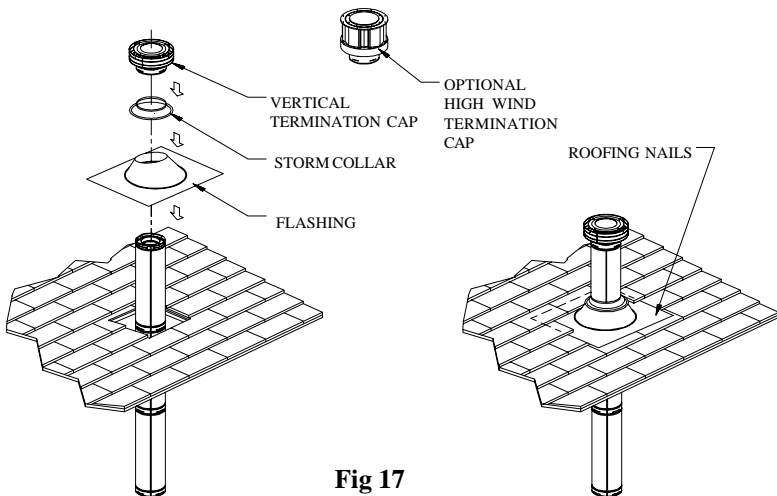

Fig 17
Step 9. Slip the Storm Collar over the Pipe, and push it down to the top of the Flashing, as shown in Fig 17. Use non-hardening sealant around the joint between the Storm Collar and the Pipe.
Secure the base of the Flashing to the roof with roofing nails. Use a non-hardening sealant between the uphill edge of the flashing and the roof. Insure the roofing material overlaps the top edge of the Flashing as shown in Fig 17. Verify that you have at least the minimum clearance to combustibles at the roofline.